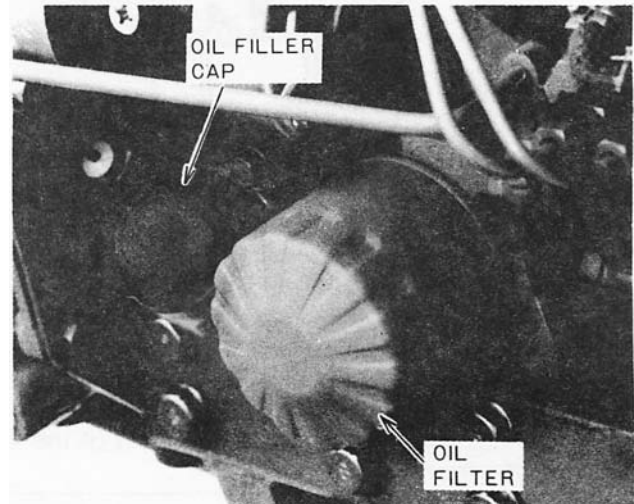

Figure 25 – Engine Oil Filler Cap and Filter
2. If the oil level is low, remove the filler cap, Figure 25, and add oil to the engine through the filler hole to bring the oil level between the marks on the dipstick. Be careful not to overfill.
2. Unscrew the oil filter, Figure 25, catching the used oil in a suitable container placed below the filter. Discard the filter.